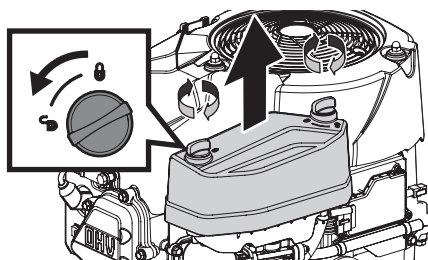

Figure 8
- Remove the air filter cover (Figure 8).